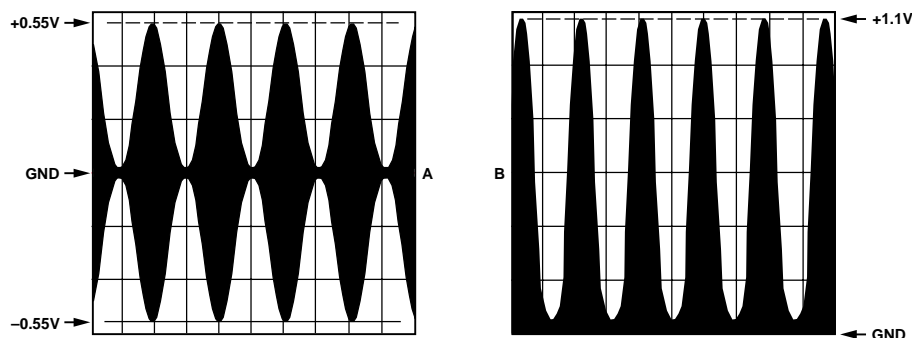

Figure 1. Symmetrical (A) and asymmetrical (B) amplitude modulation envelopes
Use of an enhancement mode MOSFET is in keeping with the single supply concept. The design is simple and parts count minimal. Combining the  $I_{OUT}$  and  $I_{OUTB}$  DAC outputs in a center-tapped broadband RF transformer produces a symmetrical modulation envelope as seen in Figure 1(A). Figure 1(B) shows the effect of not combining the two outputs and simply observing one output— asymmetrical amplitude modulation. The same signal was used to modulate both configurations.